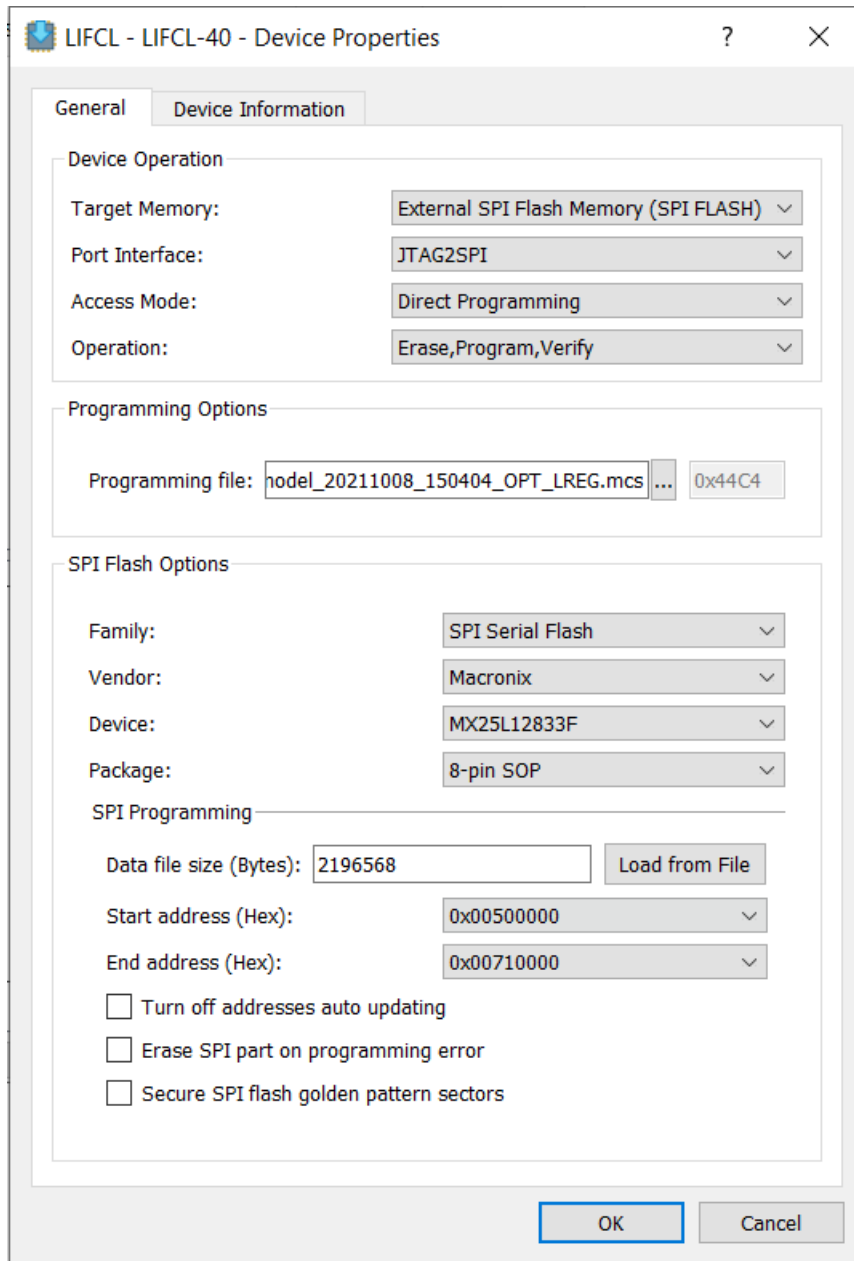

**Figure 4.11. Radiant Programmer – Output Console**
7. After successful programming, the Output console displays the result, as shown in Figure 4.11.